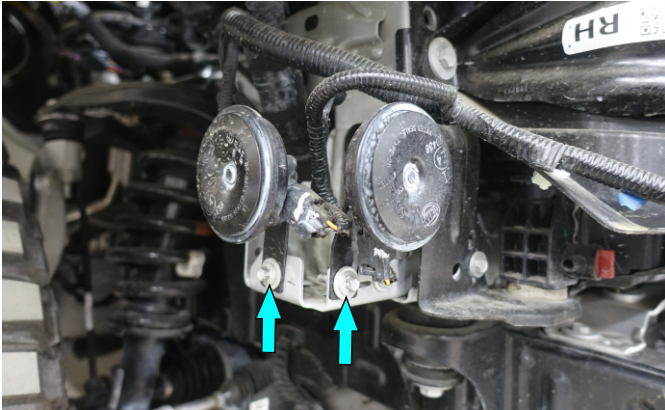

Fig.19
19. Install factory horn as shown in fig.19 and secure it using factory bolts.